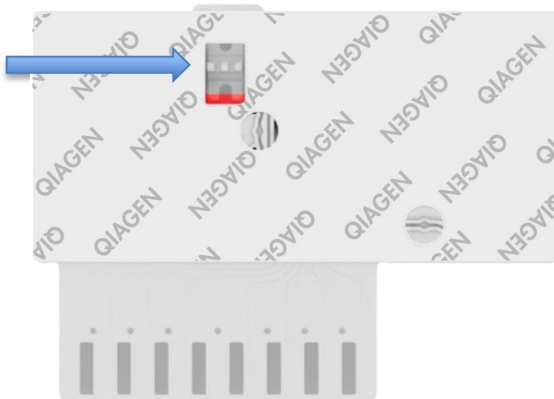

Figure 10. Sample inspection window (blue arrow).
8. Visually confirm that the sample has been loaded by checking the sample inspection window of the QIAstat-Dx Viral Vesicular Panel Cartridge (Figure 10).